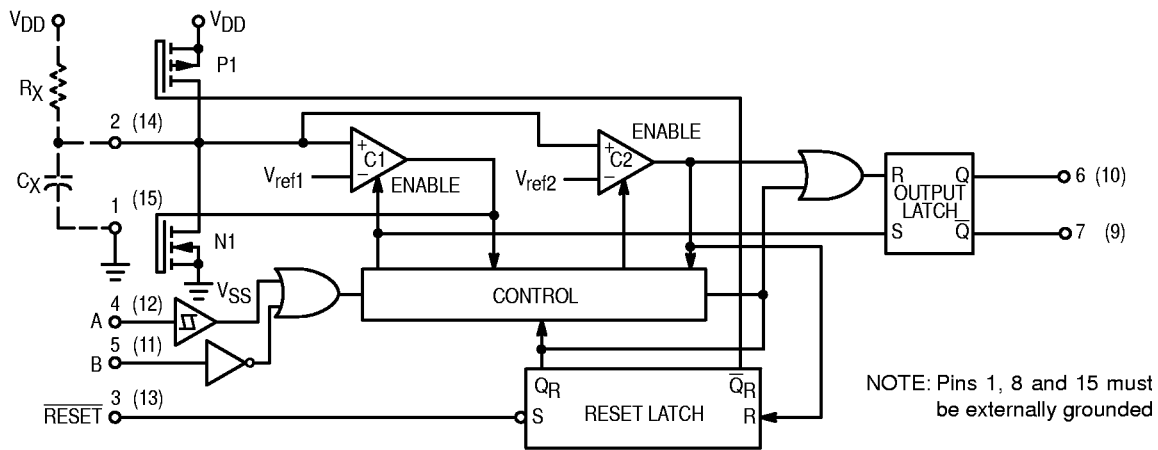

Figure 1. Logic Diagram
The block diagram of the MC14538B is shown in Figure 1, with circuit operation following.
As shown in Figure 1 and 10, before an input trigger occurs, the monostable is in the quiescent state with the Q output low, and the timing capacitor C_X completely charged to V_{DD} . When the trigger input A goes from V_{SS} to V_{DD} (while inputs B and $\overline{\text{Reset}}$ are held to V_{DD}) a valid trigger is recognized, which turns on comparator C1 and N-channel transistor N1 ①. At the same time the output latch is set. With transistor N1 on, the capacitor C_X rapidly discharges toward V_{SS} until V_{ref1} is reached. At this point the output of comparator C1 changes state and transistor N1 turns off. Comparator C1 then turns off while at the same time